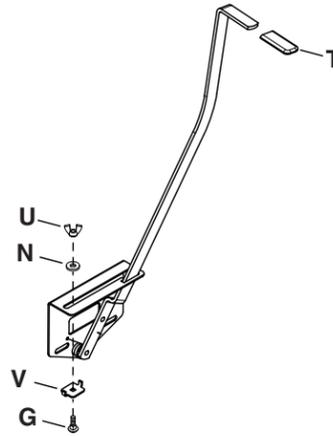

Figure 9
STEP 9: (SEE FIGURE 9)
- Install the grip (T) onto the flow control arm.
- Assemble the adjustable stop (V) to the flow control bracket using the 1/4" x 3/4" carriage bolt (G), nylon washer (N) and wing nut (U).